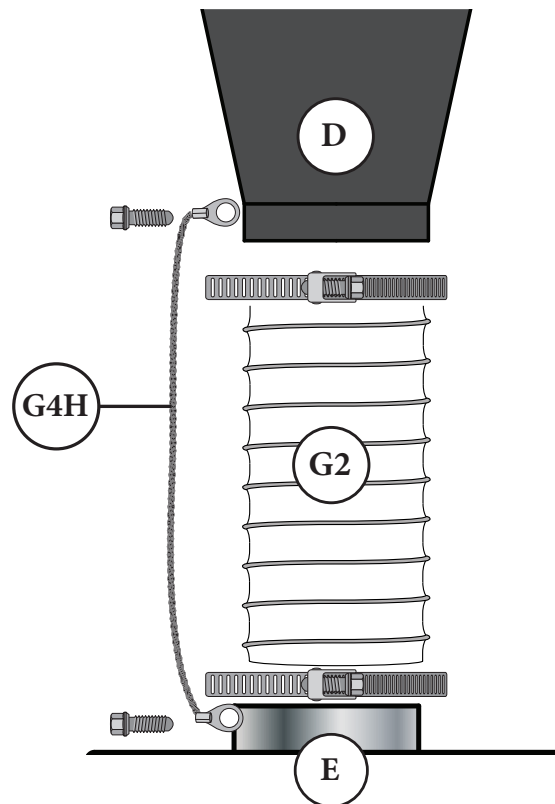

FIG. 17
Statically ground the Drum (F) by attaching the 14" Grounding Cable (G4H); Drive the 3/8" Self-Tapping Screw through its eyelet and into the bottom of the Cone (D) just above the installed Flex Hose (G2). Repeat using the second 3/8" Self-Tapping Screw on the Lid's Collared Inlet (E) [FIG. 17].